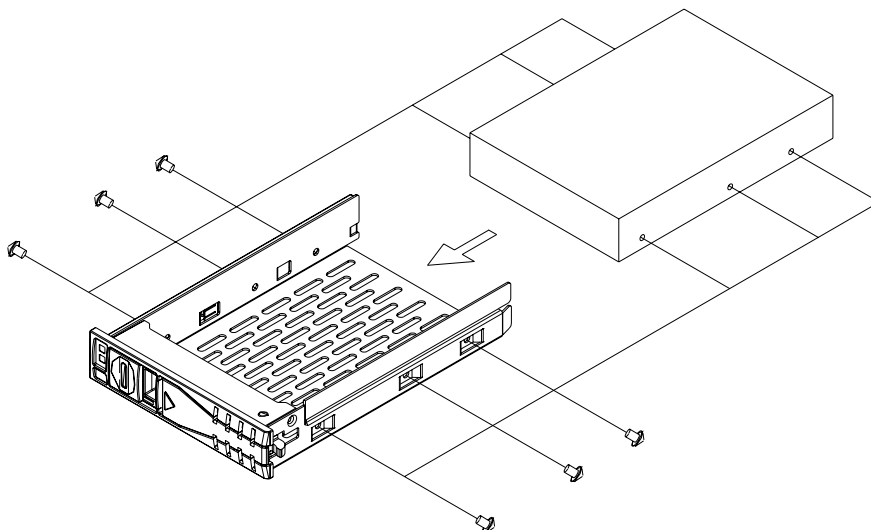

Figure 2.7 Installing a SAS or SATA HDD
2. Refer to Figure 2.7 and slide one hard disk drive into the proper location in the tray and fix it with 4 ~ 6 screws.